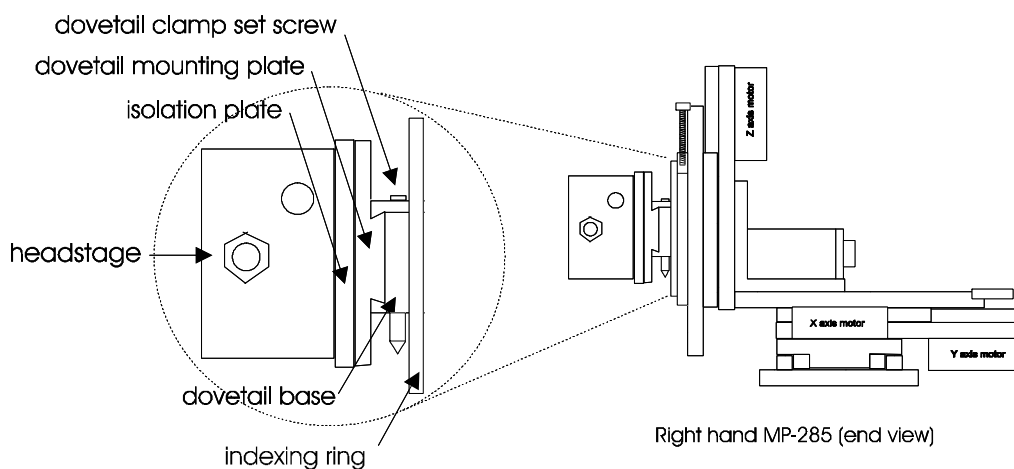

Figure 7-4. Detail of the headstage surface-mounting system.
3. Slide the dovetail mounting plate/headstage assembly into the dovetail base and secure it by tightening the dovetail clamp set screw (see Figure 7-4).